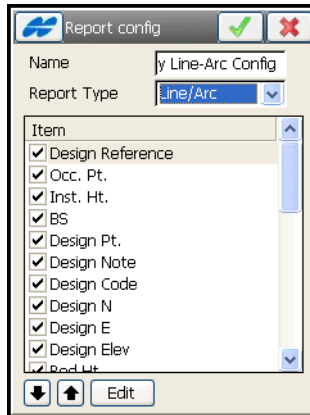

Figure 4-111. Edit Stake Report
2. You can edit an existing configuration or create a new one. Select the desired type of configuration and tap **Edit** or **Add**, respectively. The **Report Configuration** screen displays (Figure 4-111).